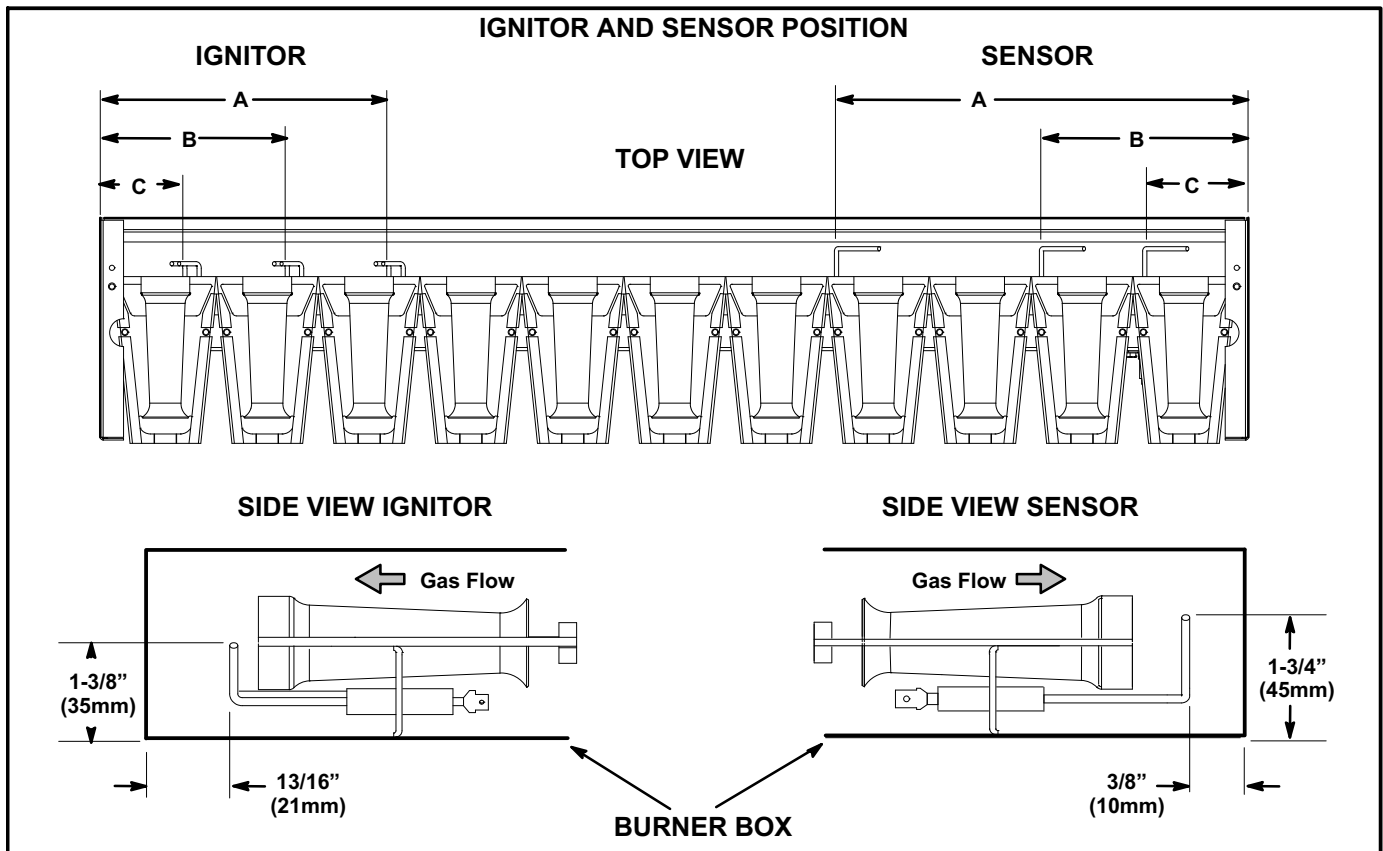

FIGURE 32
- 5- Check the alignment of the ignitor and the sensor as shown in figure 32 and table 9.